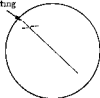

Figure 22
() Now return both the VERTICAL and HORIZONTAL gain controls to the CCW position and readjust the centering controls (if necessary) to position the beam in the center of the screen. Set the FREQUENCY switch to the INTERNAL SYNC 500-5000 position and the fine FREQUENCY control to the center of its range. Set the VERTICAL Attenuator switch to the AC X1 position, and the HORIZONTAL Attenuator switch to the AC X10 position. Turn the unit OFF and connect a lead between the red vertical input binding post and the center lug of the Sweep Positioning control. Turn the unit ON, and after warming, adjust the VERTICAL and HORIZONTAL gain controls until a trace similar to Fig. 22 appears. Adjust the horizontal attenuator trimmer capacitor nearest the front panel to provide the straightest line.
- () Now set the HORIZONTAL attenuator switch to the AC X100 position and readjust the gain controls to provide a trace similar to Figure 22, as before. This time adjust the horizontal attenuator trimmer farthest from the front panel to provide the straightest line.
- () Return the gain controls to the CCW position and set the HORIZONTAL attenuator switch to the AC X1 position. Set the VERTICAL attenuator switch to the AC X10 position. Again, adjust the gain controls until a trace similar to Figure 22 appears. Adjust the vertical attenuator trimmer capacitor nearest the front panel to provide the straightest line.
- () Now set the VERTICAL attenuator switch to the AC X100 position and readjust the gain controls to provide a trace similar to Figure 22. This time adjust the vertical attenuator trimmer farthest from the front panel. Now remove the lead.